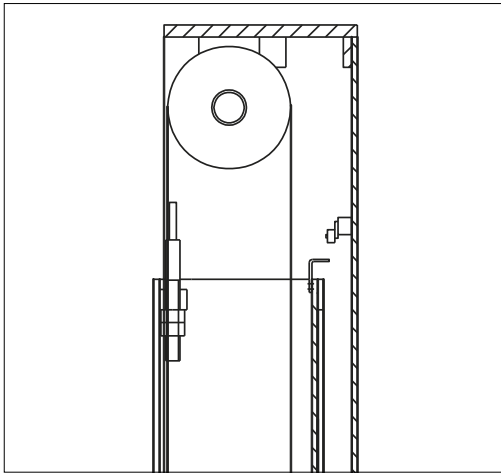

Fig. 14
- ◆ If the lift reaches to the maximum height, the up limit switch will stop the lifting. (Fig. 14)
- ◆ If the moving part exceed its travel distance, on the upper part of the command post there is one limit switch and is usually set working by the “actuator” (Fig. 14) on the command side carriage. If the first limit switch did not work, the second one would trip after 3sec of carriage run.